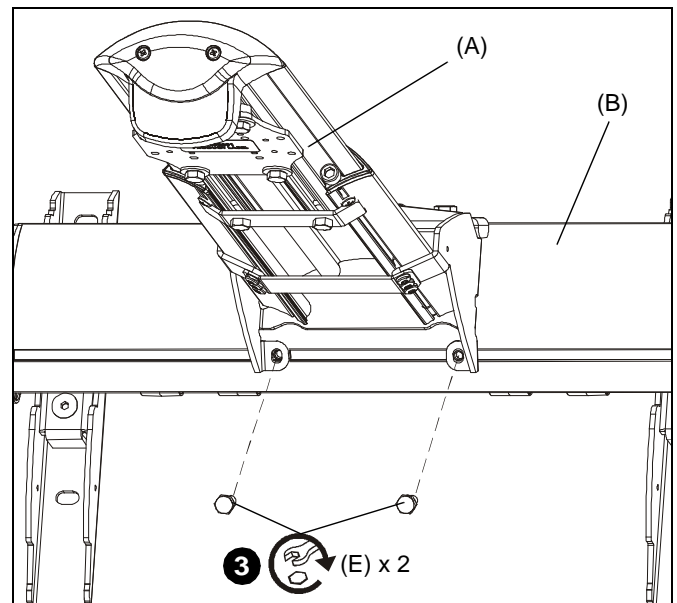

Figure 15
3. Install two 1/4-20 x 5/8" hex head bolts (E) through holes on short throw projector arm (A) and into sliding nuts on mounting bracket (B). DO NOT TIGHTEN SCREWS AT THIS POINT! (See Figure 15)
7. Tighten two bolts installed in Step 3. (See Figure 15)